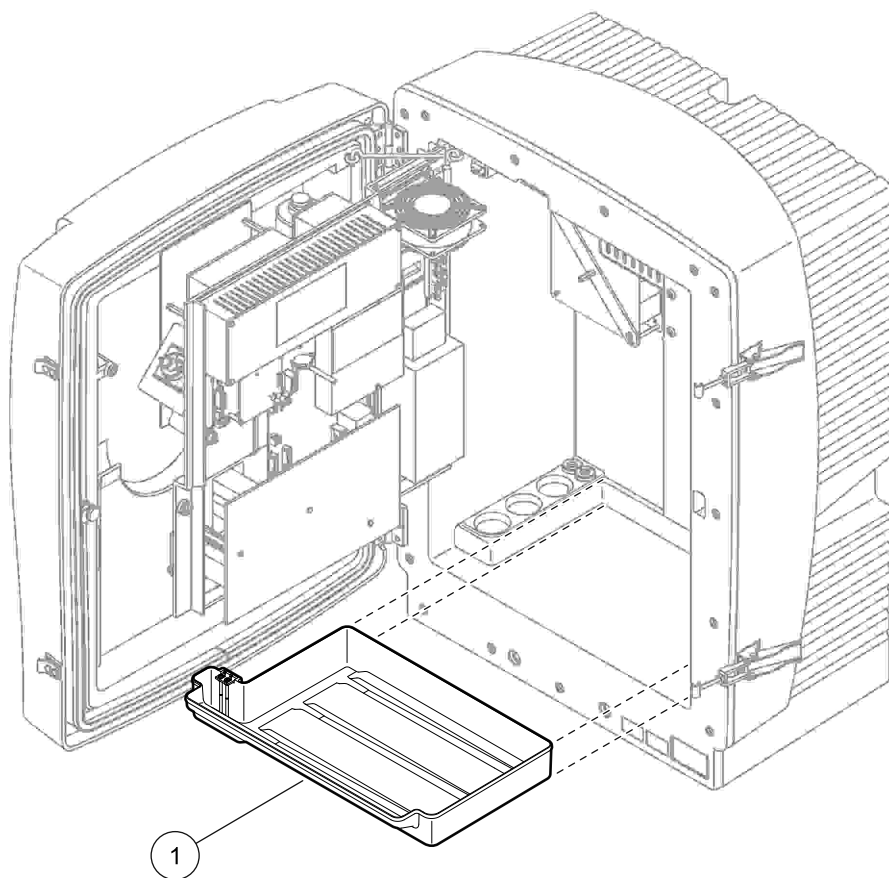

Figure 11 Installation of the collecting tray
2. Slide the collecting tray into the bottom of the enclosure (Figure 11).